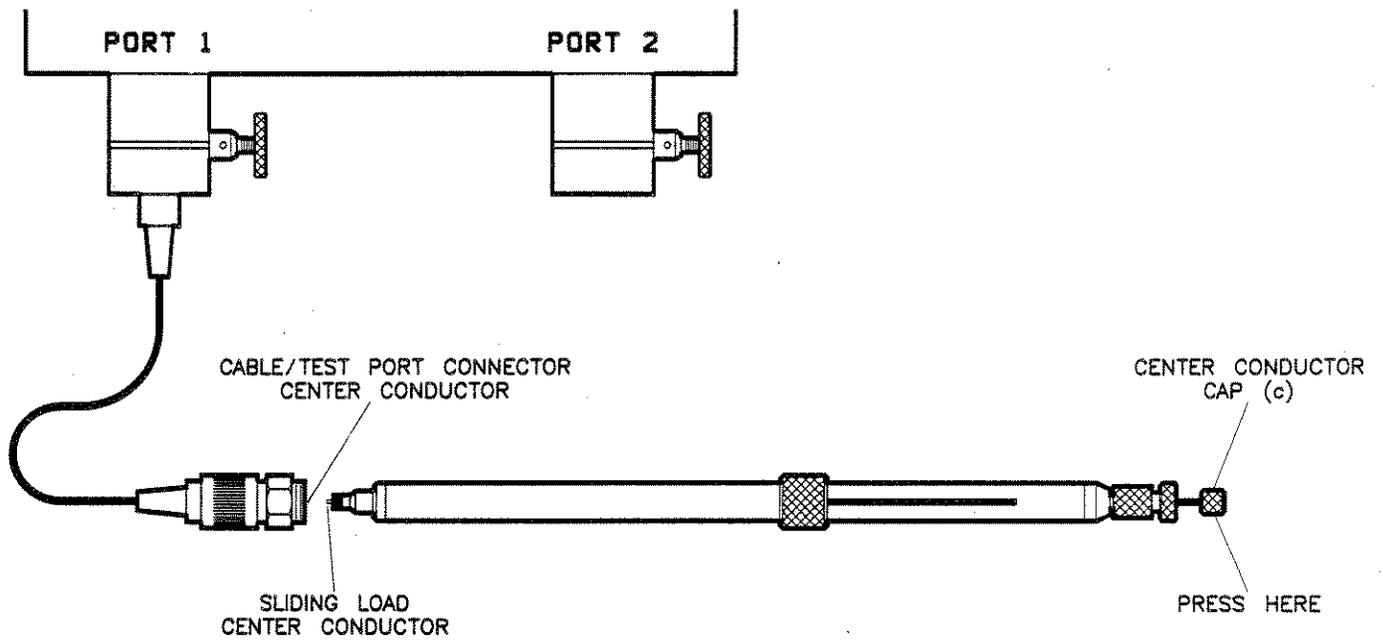

Figure 4-3. Aligning the Center Conductors
2. Continue to press the center conductor cap (c) and mate the center conductor of the sliding load with the cable/test port connector's center conductor (Figure 4-3).